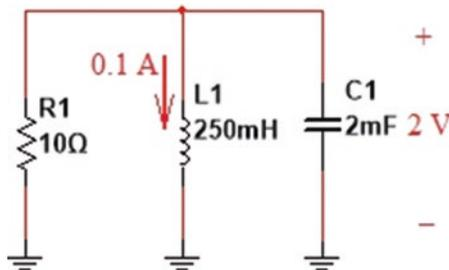

Fig. 1.359 Circuit of Exercise 1
1. Simulate the circuit shown in Fig. 1.359 with LTspice. Initial conditions are shown on the Figure.